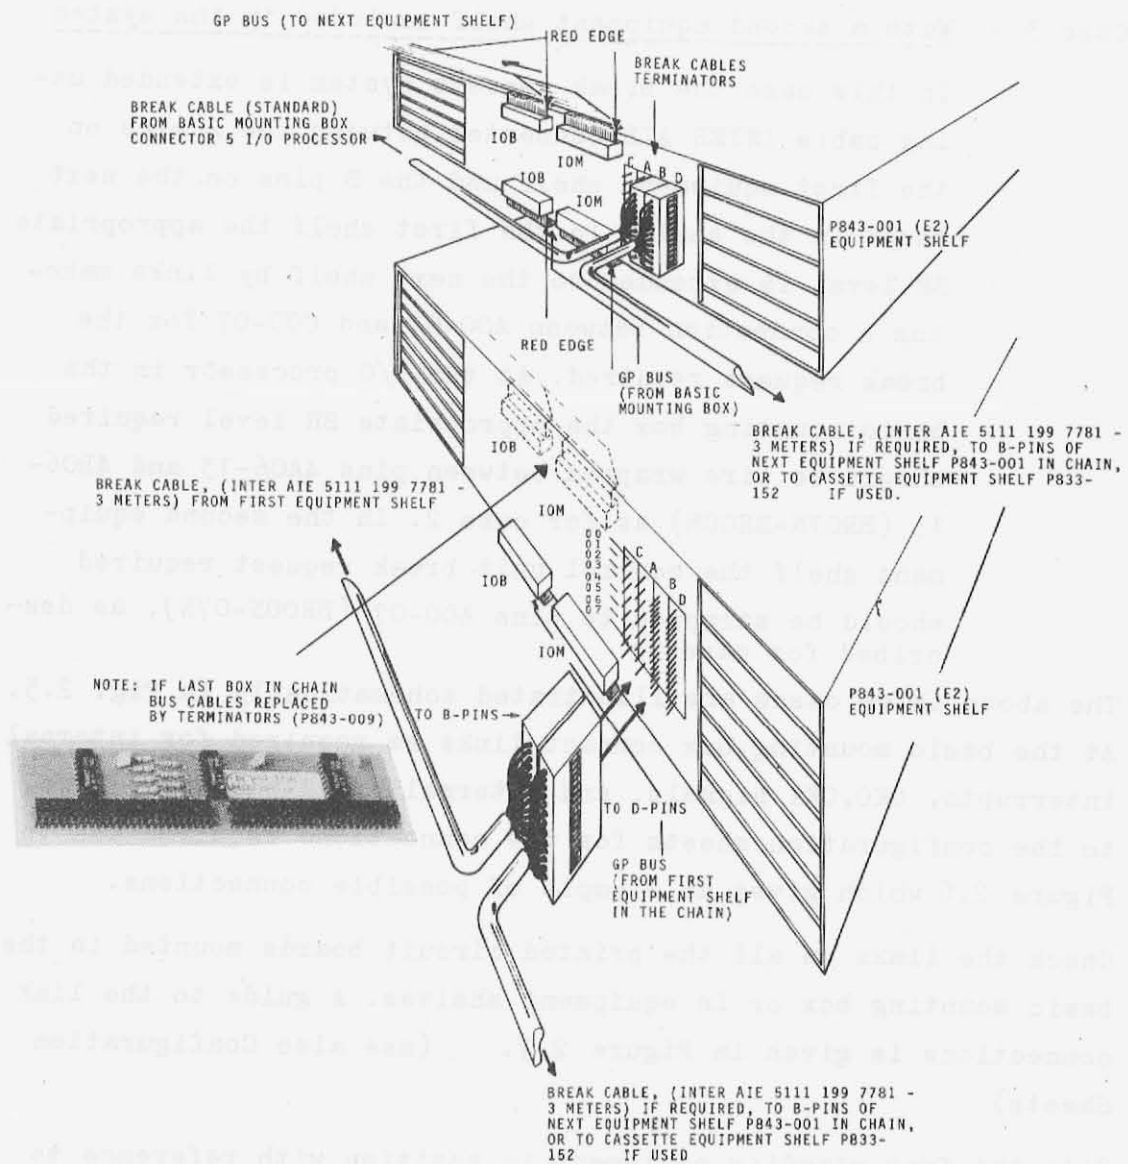

FIG. 2.4 BUS and BREAK CABLE EXTENSION
- (k) If using P843-001 equipment shelves (for type 1 control units connected directly to the GP bus) connect the GP bus cable and break cable as shown in Fig. 2.4.
Note: To illustrate the various break connections which can be made the following three system possibilities are given. Reference should also be made to Figure 2.4., 2.5. and 2.6.
In this case a break request cable is connected between connector 5 (on I/O processor) and the B pins on the equipment shelf (see Fig. 2.4.). In the equipment shelf the control units break requests (total 6) are strapped to pins A00-A07 (BR00N-07N) as required. At the I/O processor in the basic mounting box the appropriate BR
BREAK CABLE (DETAILS AS FOR TERMINATORS ON P843-001 EQUIPMENT SHELF) (SEE FIG. 2.4)